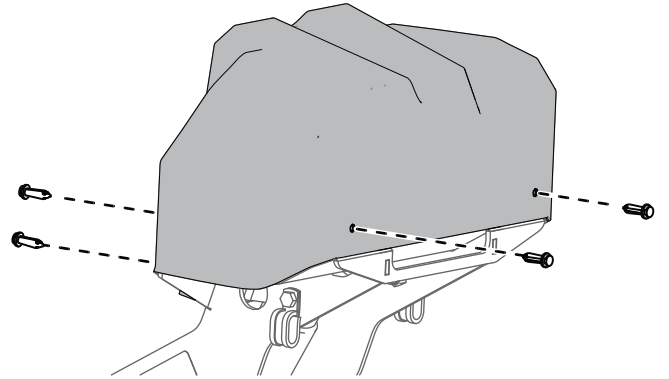

Figure 25
2. Remove the 4 plastic rivets securing the coupler cover to the coupler, and remove the cover (Figure 25).